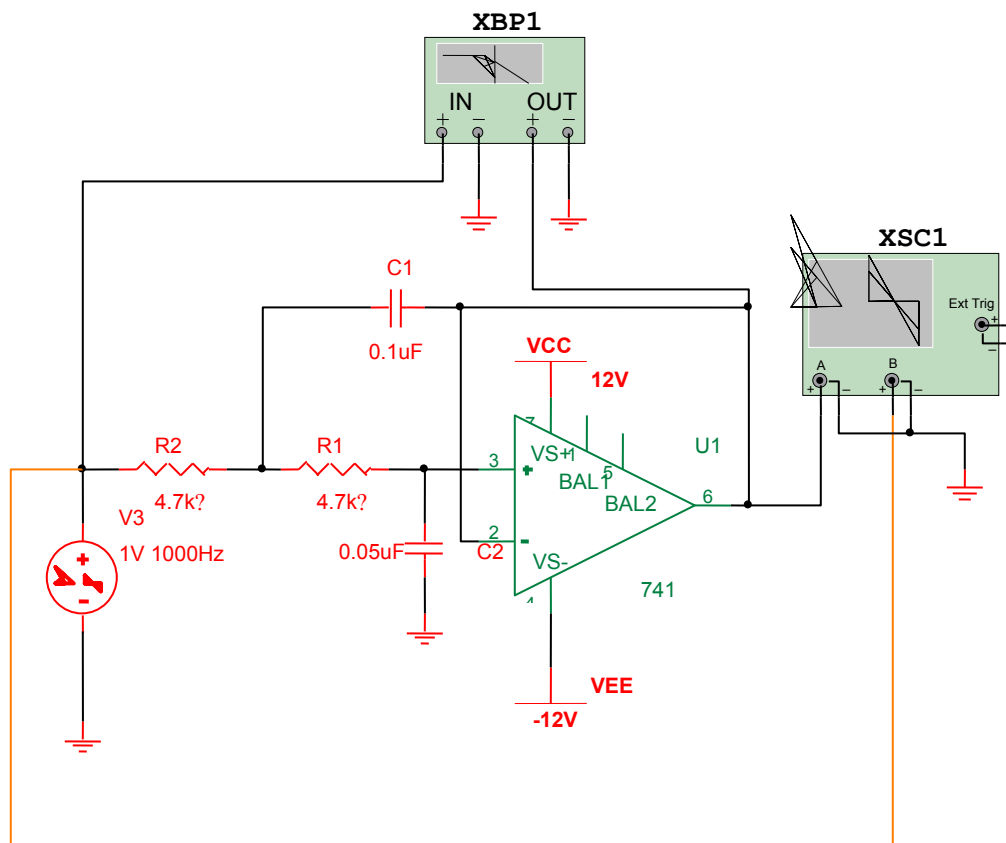
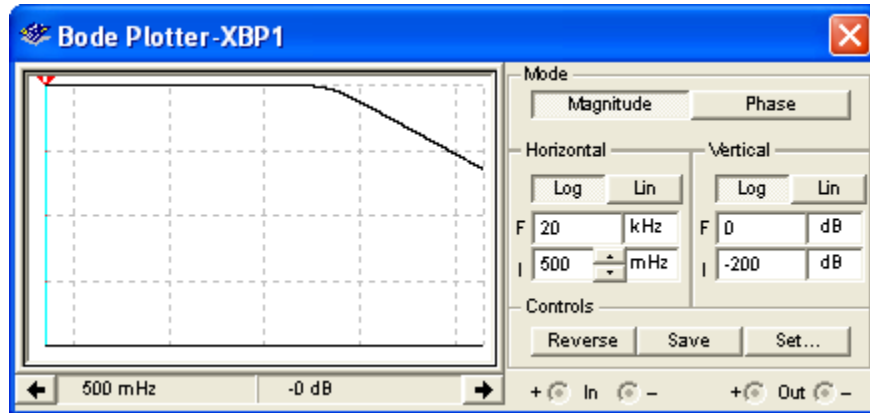
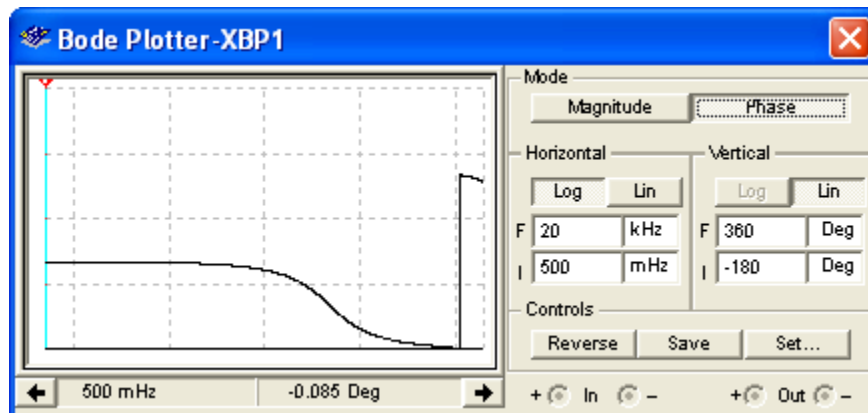

FIGURE E1-1
FIGURE E1-2
FIGURE E1-3
1. The EWB Multisim implementation of a Butterworth Second Order Low-Pass Filter is provided in Fig. E1-1. Your first step is to construct this filter in EWB Multisim. After completing your design, start the simulation and use the oscilloscope to verify that the circuit is functioning properly. To do this, connect the oscilloscope to both the input and output of the filter and verify that the output sine wave is 180° out of phase with respect to the input sine wave. The output signal will also be attenuated with respect to the input (gain less than 1). The connections you need to make to the oscilloscope are shown in Fig. E1-1.
Connect the Bode plotter as shown in Fig. E1-1. To use the Bode plotter, double-click on it and set the sweep frequency to an initial value (**I**) of 500 mHz and a final value (**F**) of 20 kHz. Both the Vertical and Horizontal settings should be set to Log. Adjust the initial and final level settings for the vertical axis as needed to display the data results. For this exercise click on the Magnitude button. The settings for the Bode plotter and the expected simulation results are shown in Fig. E1-2.
1. In this exercise, you will make phase measurements on the Butterworth Second Order Low-Pass Filter provided in Fig. E1-1 using the EWB Bode plotter. Your first step is to double-click on the Bode plotter and select on the phase mode by clicking on the Phase button. Change the initial (**I**) phase setting to -180° and final (**F**) phase setting to 360° . The settings for the Bode plotter and the expected simulation results are shown in Fig. E1-3. You may need to rerun the simulation after making the changes.